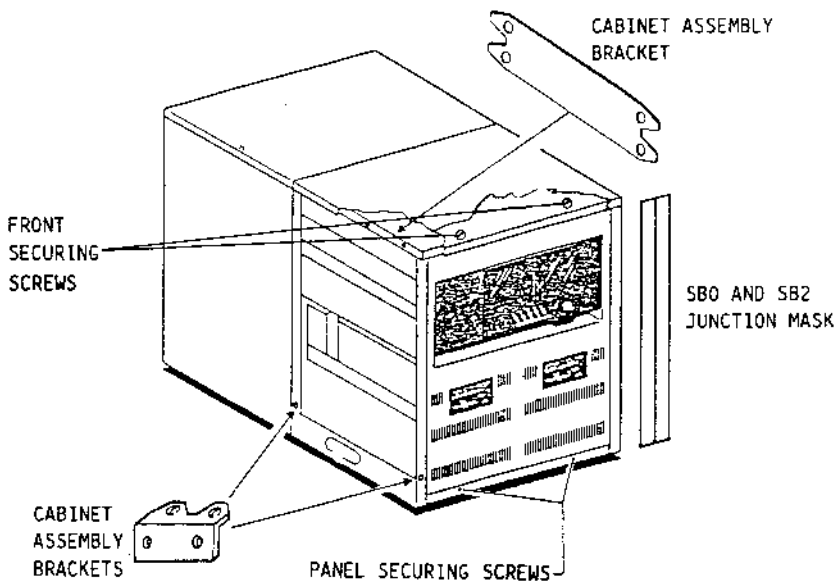

Fig. 2-7 SB2 module installation
- Secure the SB2 module using the screws, brackets and joint as shown in figure 2-7.